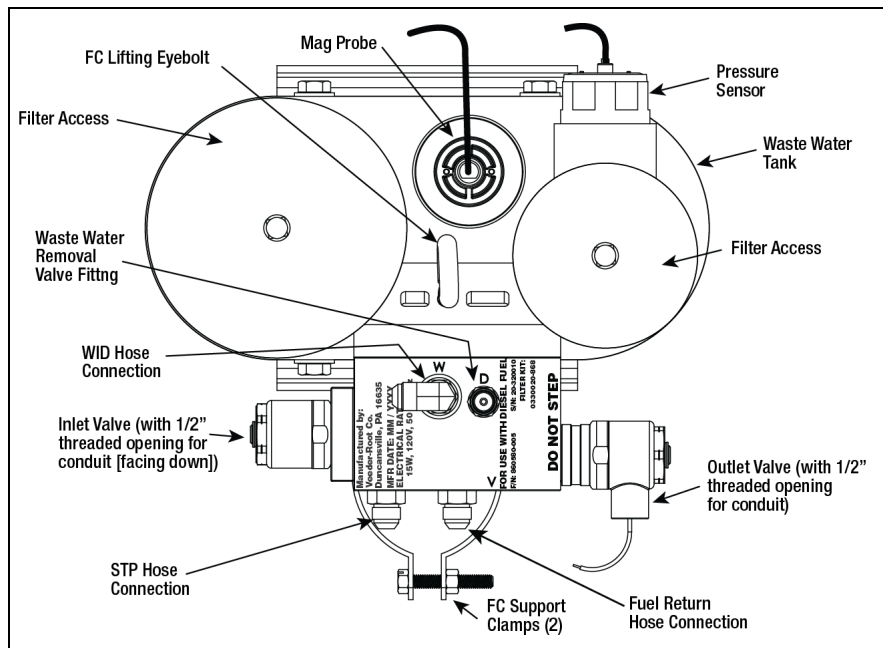

Figure 3. FC Assembly Components
The Fuel Conditioner (FC) Assembly connects to the STP and to the Water Intake Device (WID) at the top of the WID Riser. The FC returns processed fuel to the tank through a port in the Guide Tube flange. Components of the FC are shown in Figure 3.